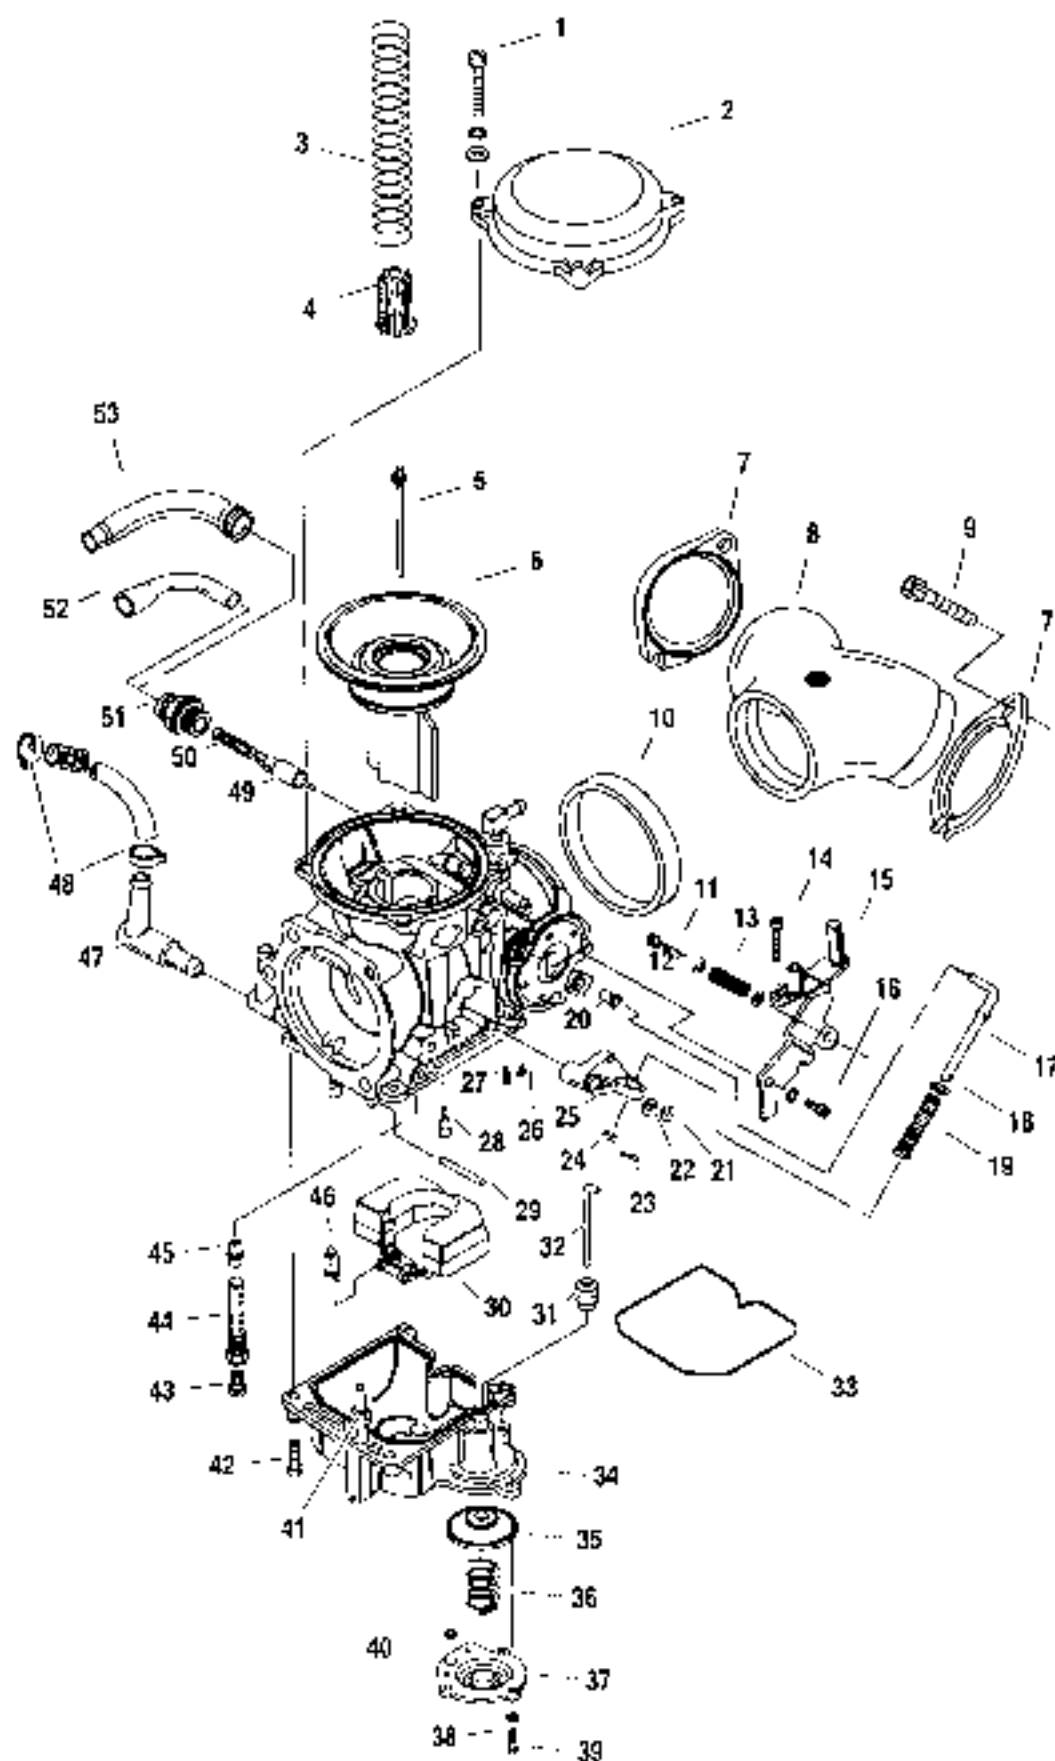

Figure 4-3. Carburetor
5. See Figure 4-3. Remove vacuum hose from the carburetor. Pull carburetor free of seal ring and manifold (8).
6. Remove enrichener cable (51, 52, and 53), enrichener valve (49) and spring (50).
7. If the manifold or manifold seals need to be removed, remove the screws (9) that hold the manifold in place and detach MAP sensor connector from wiring harness. See 8.6 MANIFOLD ABSOLUTE PRESSURE SENSOR (MAP).
Legend for Figure 4-3.
1. See Figure 4-3. Remove screws (14, 16) and bracket (15).
2. Remove screws (1) and washers. Remove top (2) and spring (3).
3. Lift out vacuum piston (6) with needle (5) and spring seat (4). Remove cone parts from vacuum piston.
1. See Figure 4-3. Remove screws (42) to detach float bowl assembly.
2. Remove pin (29), float (30) and valve (46).
3. Unscrew main jet (43) and needle jet holder (44). Needle jet (45) is now free to be removed from bottom end of passage.
4. Insert thin bladed screw driver into slow jet passage and turn out slow jet (28).
See Figure 4-3. Remove screws (39), lockwashers (38), accelerator pump housing (37), spring (36) and diaphragm (35). Remove O-ring (40) from housing.
3. See Figure 4-3. Examine spring (3) for stretching, crimping or any distortion or damage. Replace if damaged.
5. Examine needle (5) for evidence of bending or damage. Examine tip of float needle for grooves. Needle should be straight and surface of taper smooth and even.
1. See Figure 4-3. Check float bowl O-ring (33) for any distortion or damage. Replace if seating surfaces are damaged.
1. See Figures 4-3. Inspect the accelerator pump diaphragm (36) for holes, cracks or deformation. Replace as necessary.
2. Replace the pump rod (32) if it is bent and replace the bowl (34) if it is cracked.
1. See Figure 4-3. Place needle (5) through center hole in vacuum piston (6). Place spring seat (4) over top of needle.
4. Place spring (3) over spring seat and carefully lower top (2). Keep spring straight while lowering top.
6. Once top is installed correctly, install screws (1) and washers. Place bracket (15) in position with idle screw (11) resting on top of throttle cam stop. Install body screw (16) and washer (18) first, then top screw (14), to prevent bending bracket or throttle cam.
1. See Figure 4-3. Screw slow jet (28) into slow jet passage with narrow bladed screwdriver.
2. Turn carburetor upside down. Place needle jet (45) in main jet passage with needle passing through center hole. Be sure end of jet with larger opening and chamfered surface enters passage first.
3. Insert needle jet holder (44) into main jet passage with needle inserted into center of holder. Thread holder into passage and tighten. Thread main jet (43) into tapped hole in holder and tighten.
4. Place float assembly (30) into position with fuel inlet valve (46) inserted into valve seat and pivot arm aligned with holes in mounting posts at bottom of carburetor body. Insert pin (29) through float pivot arm and float mounting posts.
5. Place float bowl over float and onto carburetor body flange. Bowl will only fit in one position. Install screws (42) and tighten.
6. Install enrichener valve (49) and spring (50). Install enrichener cable (51, 52 and 53) on carburetor.
See Figure 4-3. Install diaphragm (36), spring (38), O-ring (40) and housing (37). Secure with three screws (39) and lockwashers (38).
1. See Figure 4-3. Place the intake manifold seal (10), flanges (7), and manifold (8) in position. Flanges are marked with "F" for front cylinder and "R" for rear cylinder. Install the manifold mounting screws (9) finger tight. Place carburetor in position, for alignment purposes.